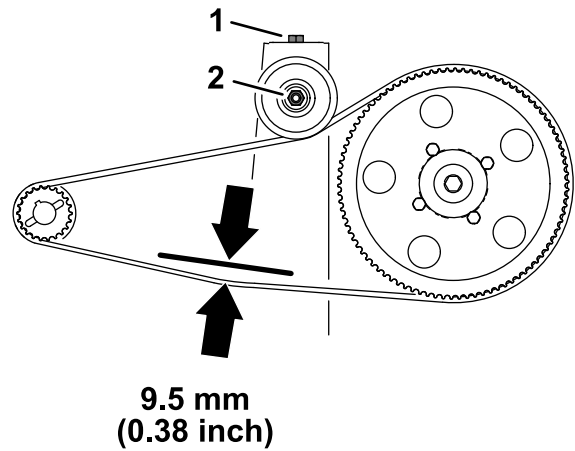

**Figure 182**
4. Align the holes in the pulley for the alternator (kit) with the holes in the pulley for the sprayer pump (Figure 182).